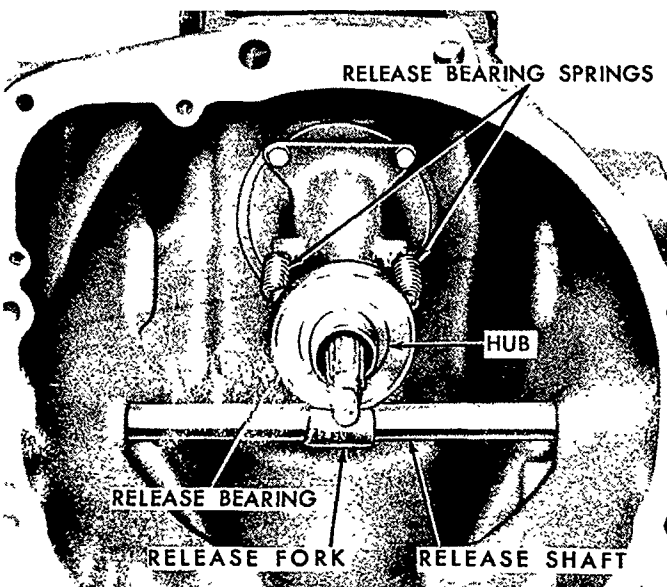

Figure 9
1. Disconnect the clutch release bearing springs and remove the bearing and hub assembly, Figure 9.
3. Disconnect the clutch release bearing springs and remove the bearing and hub assembly, Figure 9.